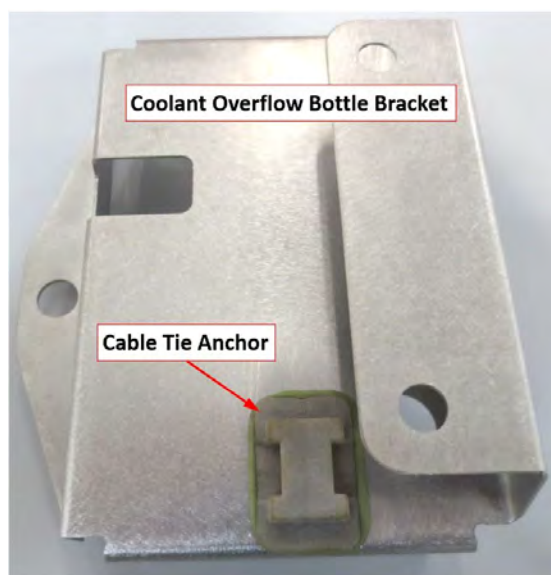

FIGURE 17-34
- a. A CB9120V5 cable tie anchor will be bonded to the bracket in the location shown in Figure 17-34.